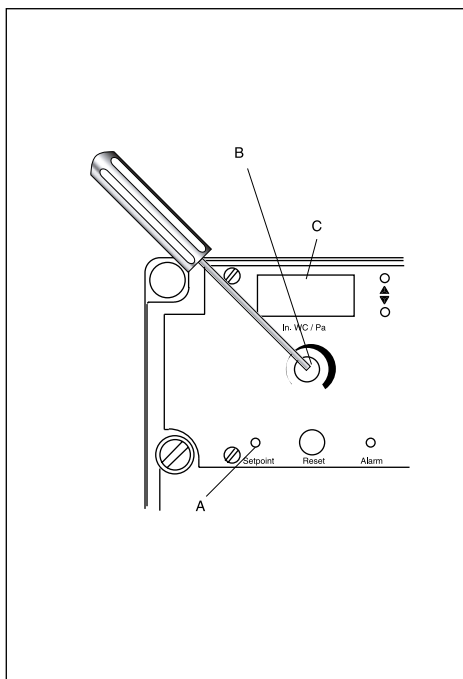

Fig. 14
1. Press the set-point button continuously with a pen or screwdriver (Fig. 14-A) until the pressure setting appears on the display. While continuing to press the set-point button, use the potentiometer (Fig. 14-B) to set the required pressure in WC/Pa on the display (Fig. 14-C). Release the set-point button; the actual pressure will now show up on the display.